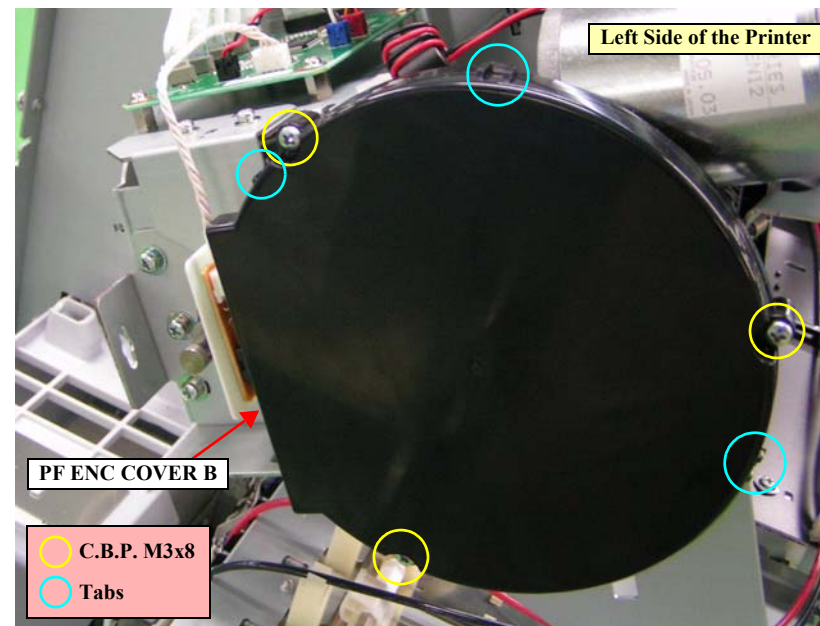

Figure 4-88. Removing the PF ENC COVER B
2. Remove the three screws that secure the PF ENC COVER B. *See Figure 4-88.*
3. Release the three tabs that secure the PF ENC COVER B and remove it. *See Figure 4-88.*